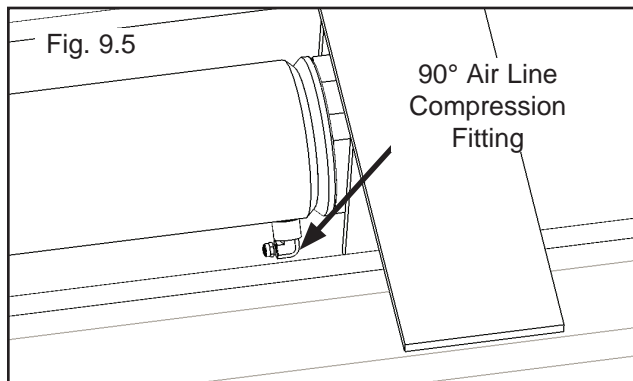

Fig. 9.5
4. Install the 90° Air Line Compression Fitting in the port at the base, pinned end of the Cylinder. On the pipe thread side of the Fitting, it is recommended to use Teflon Tape or pipe sealer. (See Fig. 9.5)